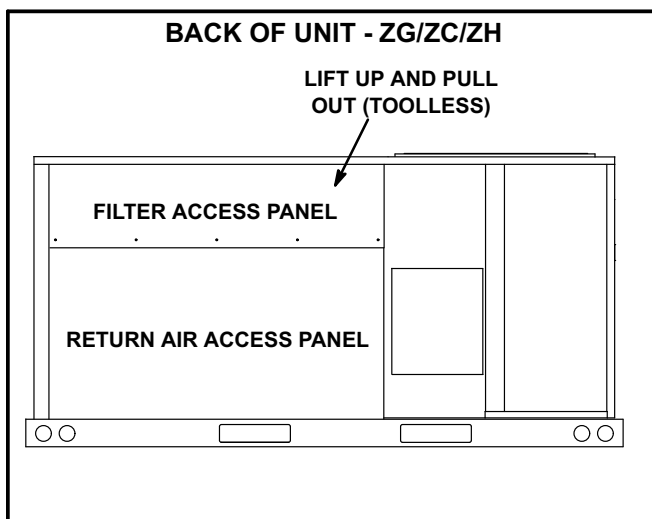

FIGURE 1
- 2- Remove filter access panel and return air access panel. If hood is already installed, remove hood. See figure 1.